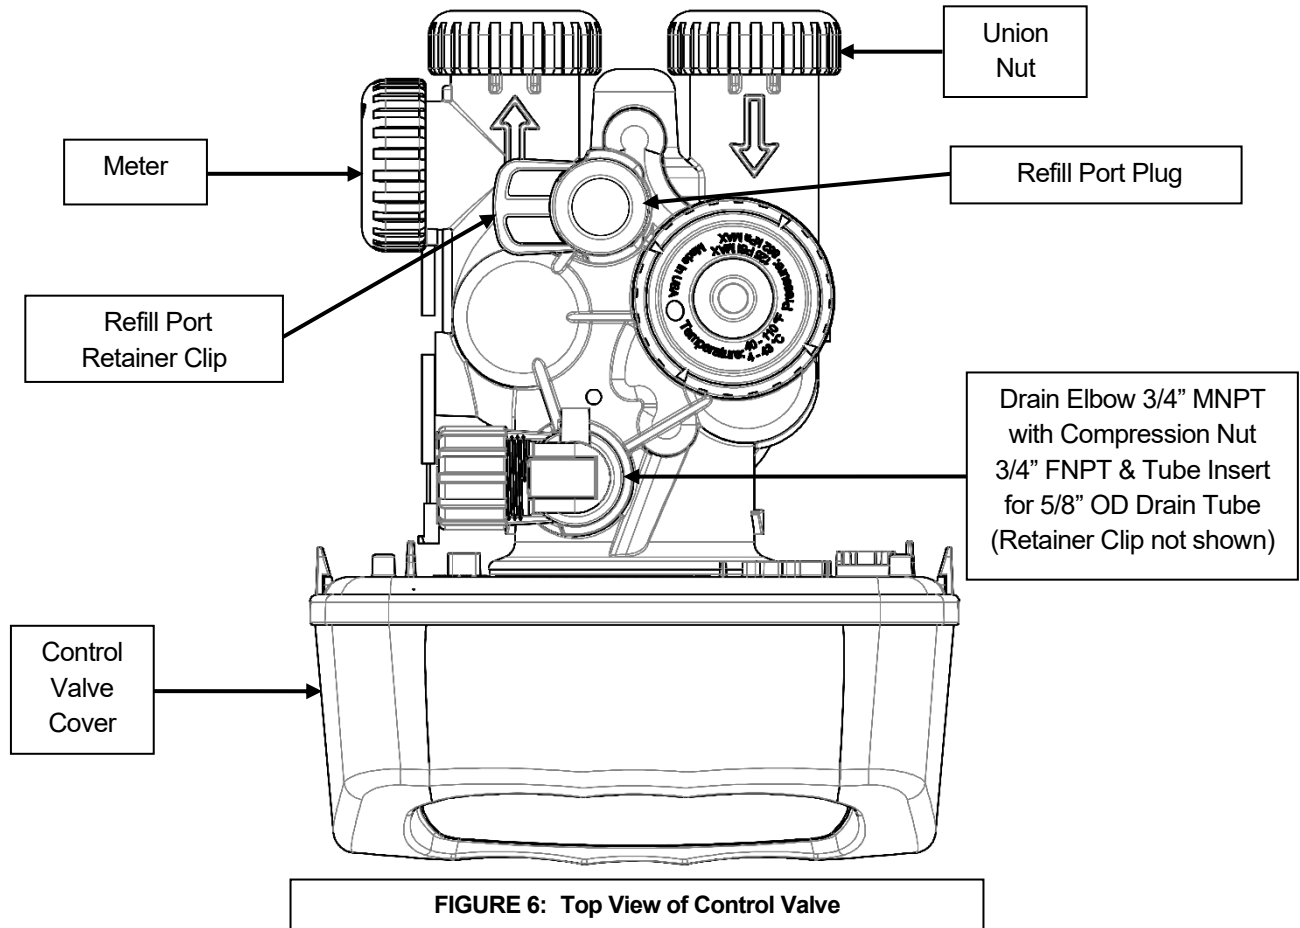

FIGURE 6: Top View of Control Valve
- STEP 8:** **Apply thread tape to DLFC Assembly.** Remove drain line flow control (DLFC) retainer clip (Figure 6, Page 7) and remove the DLFC assembly from the valve body, (Figure 6, Page 7). Apply thread tape to threads. Slide drain fitting compression nut onto provided drain tubing and place the tube insert inside the end of the tubing. Insert tubing end with insert into drain elbow and tighten the compression nut onto the thread taped elbow. Reinsert DLFC assembly into the valve body, making certain it is **FULLY** inserted before replacing the retaining clip.
- STEP 9:** **Install drain line.** Use the provided ½” I.D. polyethylene tubing (**DO NOT USE FLEXIBLE VINYL TUBING!**) to run drain line from control valve DLFC fitting (Figure 6, Page 7) to floor drain or sump pit capable of handling the backwash rate of the filter (refer to specifications and flow rate on page 16) or discard the compression fitting and use ¾” NPT fitting to connect a rigid pipe drain line (recommended). If backwash flow rate is greater than 7.5 gpm, use ¾” FNPT connector with rigid drain line. There must be an air gap at the end of the drain line to prevent siphoning of wastewater. Length of drain line should be 15' or less. **AVOID OVERHEAD DRAINS.**
- 12) Reattach Drain Line to Control Valve (Figure 6, Page 6).